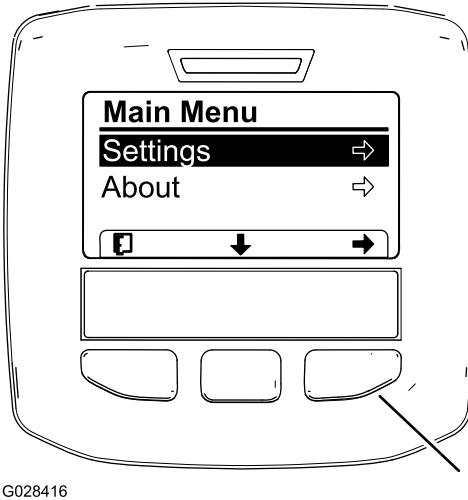
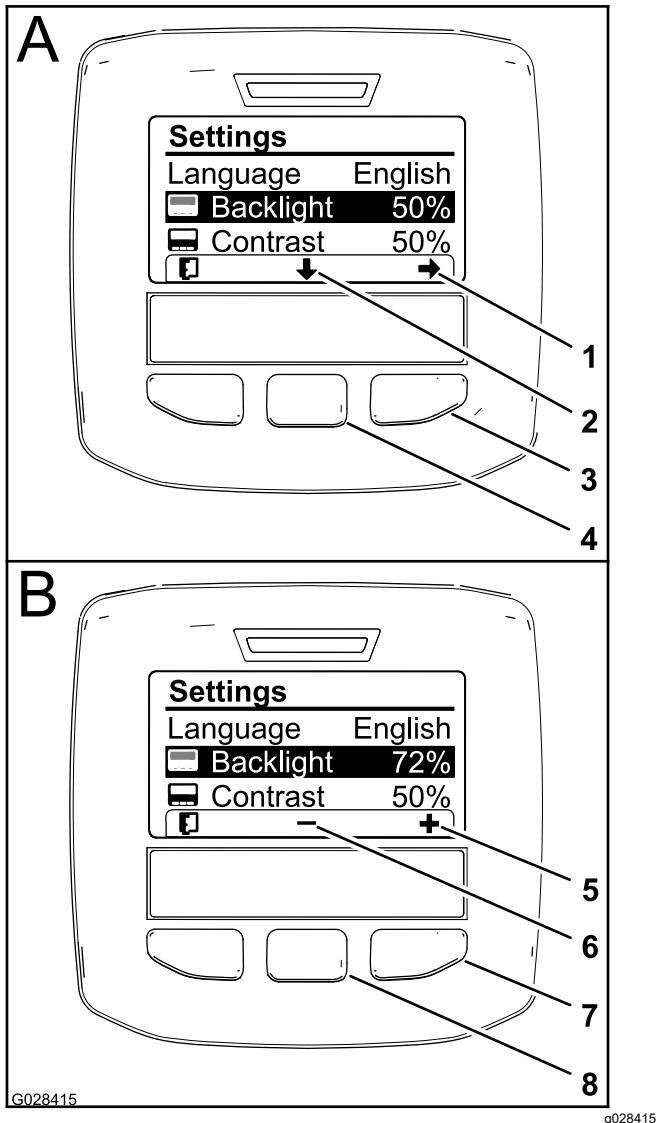

Figure 61
Figure 63
3. Press the center selection button to access the Main Menu (Figure 61).
5. Press the left selection button to save your selection(s), exit the Settings menu, and return to the Main Menu (Figure 61).
2. To adjust the backlight level of the display, press the center selection button (the button below the down arrow icon in the display) to move the selected option down to the Backlight setting (Figure 63).
3. Press the right selection button to display the value adjustment context (Figure 63).
4. Use the center selection button and right selection button to change the brightness level of the display (Figure 63).
selection, exit the Backlight menu, and return to the Settings menu (Figure 63).
- To adjust the contrast level of the display, press the center selection button (the button below the down arrow icon in the display) to move the selected option down to the Contrast setting (Figure 63).
- Press the right selection button to display the value adjustment context (Figure 63).
- Press the left selection button (the button below the list icon in the display) to save your selection, exit the Contrast menu, and return to the Settings menu (Figure 63).
- Press the left selection button to exit the Settings menu and return to the Main Menu (Figure 61 and Figure 63).
- Press the left selection button to return to the Home screen (Figure 63).